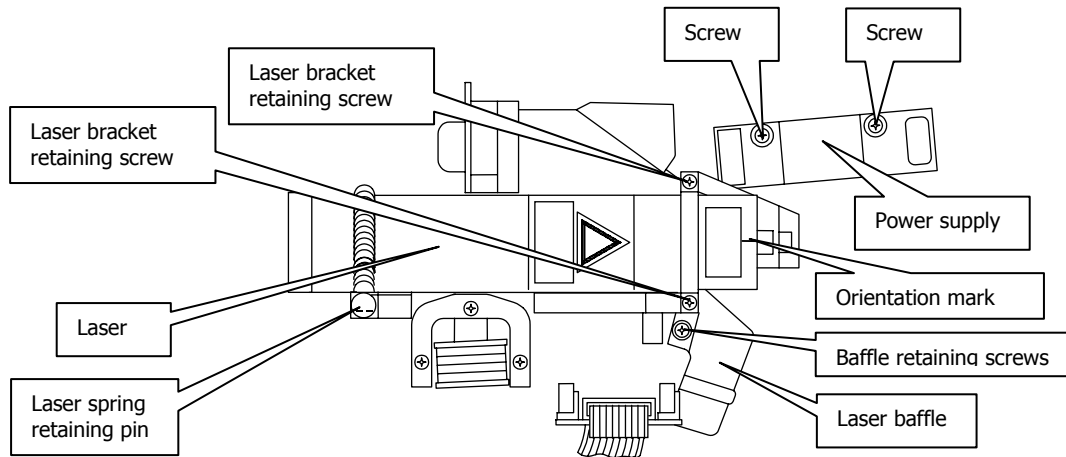

Figure 49 Laser and power supply installation
4. Unhook the spring and remove the two screws on the retaining bracket, as shown in Figure 49.